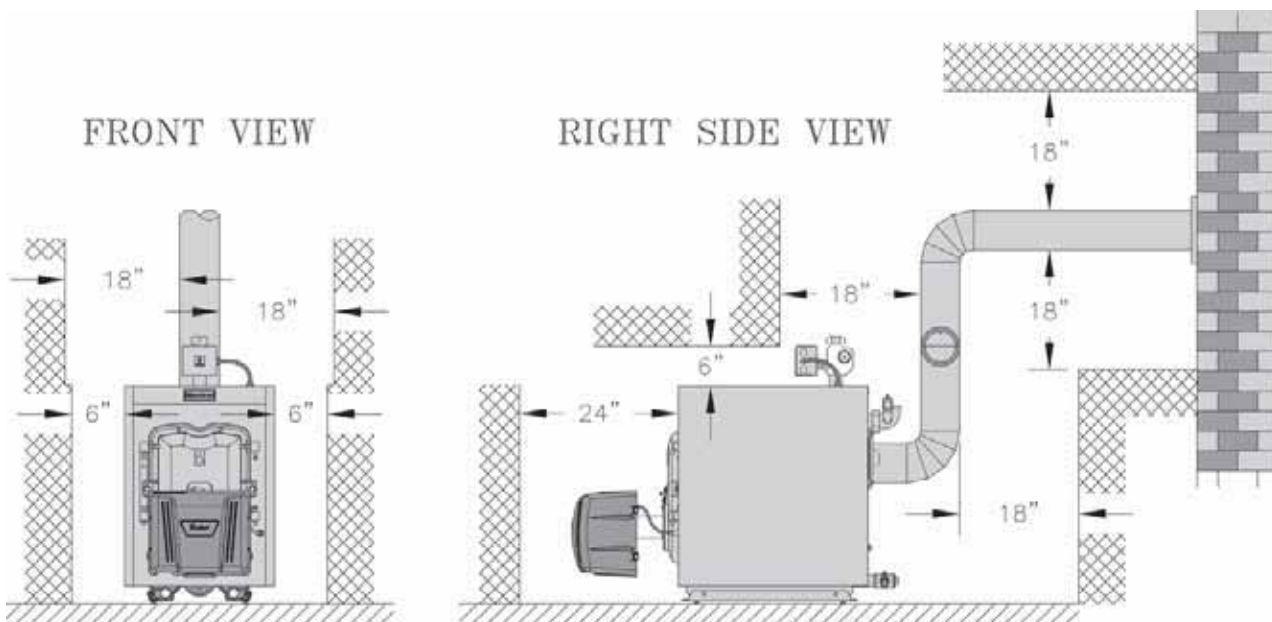

Figure 2A: Chimney Minimum Installation Clearances To Combustible Materials (Inches)
- 12" minimum for rear smokebox cleaning (Note: This dimension will also be controlled by horizontal to vertical to horizontal smokepipe arrangement - **Chimney Vent** (see Figures 2A and 21).
5. For minimum clearances to combustibles materials. See Figures 2A and 2B.